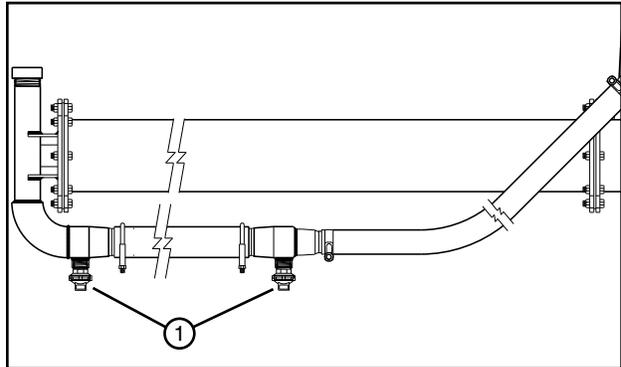

Figure 90-1 1. Booster Pump Hose Drain
- Make sure the booster pump hose drain is not plugged with sand or debris and the hose is completely drained. See Figure 90-1.